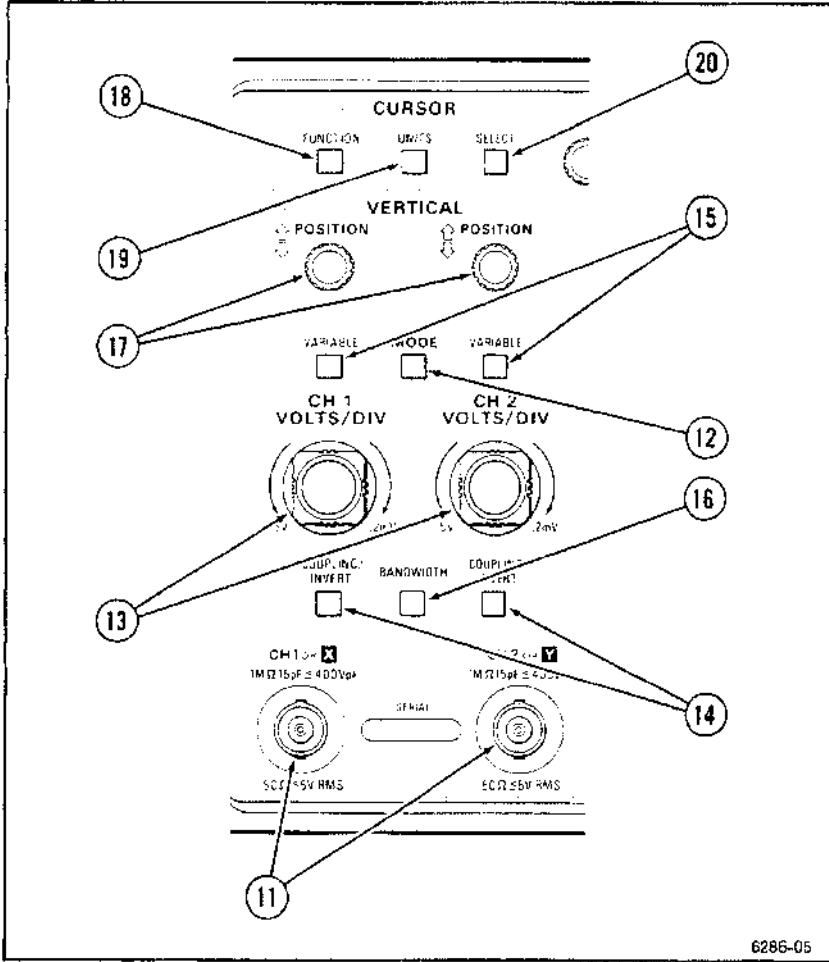

Figure 5-3. Vertical controls and connectors.
Refer to Figure 5-3 for locations of items 11 through 20.